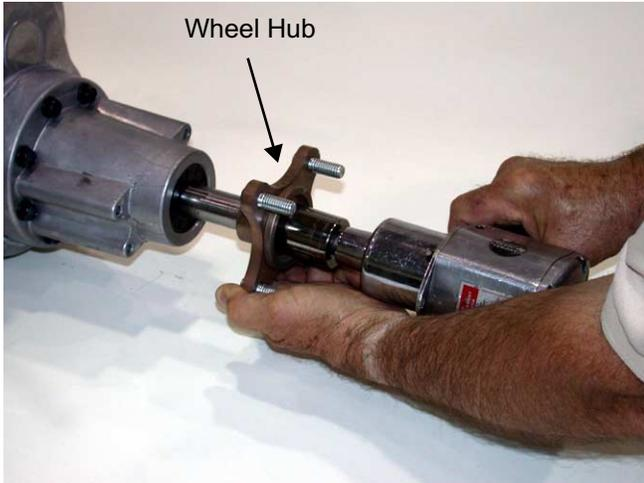

Figure 8.1
- 8.1. Remove the wheel hubs using a 28 mm. Socket and an impact wrench. It may be easier to remove the hubs while the transmission is still on the tractor after removing the wheels. See Figure 8.1.